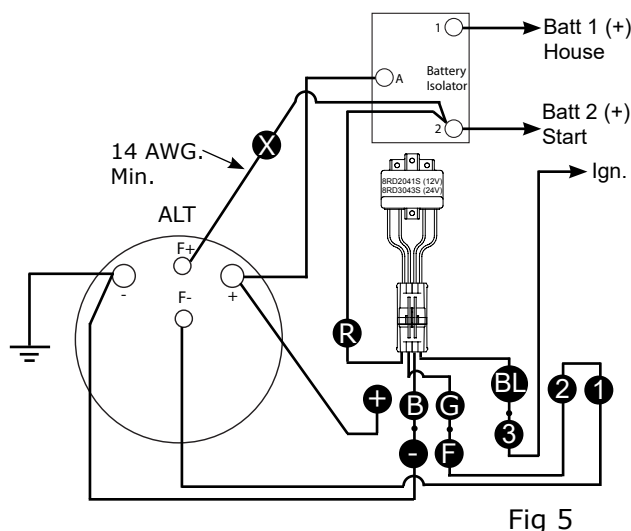

Fig 5
4) Remove short jumper wire connecting alternator F+ and B+ terminals. Install a new (14 AWG min.) wire X from the alternator F+ terminal to the battery isolator start battery post. Fig 5
6) Wiring, please refer to steps below. Fig 5
- A) Splice wires ① and ② together and apply shrink tubing to prevent shorting.
- B) Connect wire ③ to (Blue BL / A Pin) on voltage regulator.